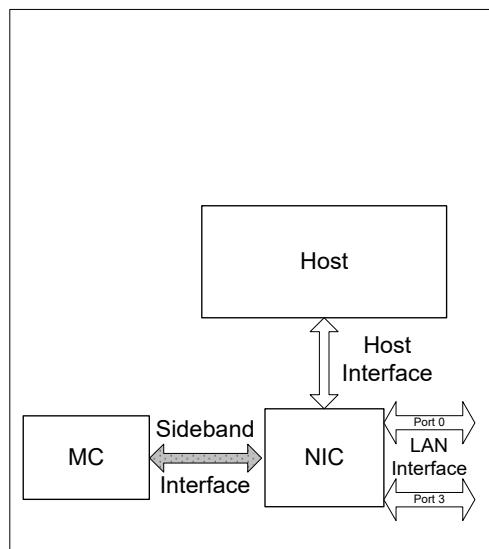

Figure 10-1 Sideband Interface
Pass-Through (PT) is the term used when referring to the process of sending and receiving Ethernet traffic over the sideband interface. The I350 has the ability to route Ethernet traffic to the host operating system as well as the ability to send Ethernet traffic over the sideband interface to an external BMC. See Figure 10-1.